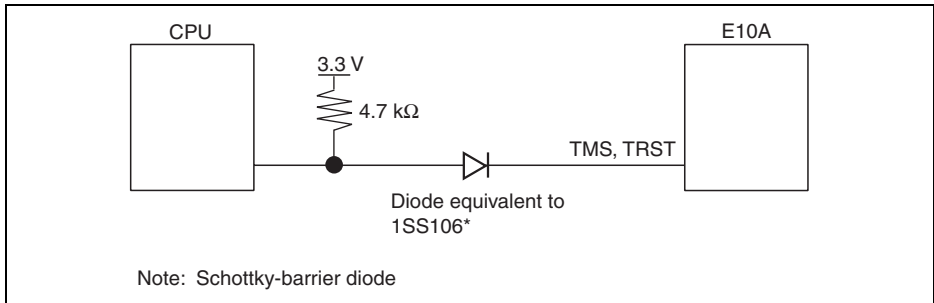

Figure 1.6 Countermeasure against the Leakage Current in the Emulator
7. When the power of the emulator is turned on (make sure that the emulator is inserted into the host computer and the power supply is turned on), and the target system (such as the system mounting the target device) is turned off, the power-supply voltage of the target device (target system) may become higher around 1.2 V to 1.4 V than the normal voltage due to the leakage current from the emulator. This is because TMS and TRST are driven to high by the emulator; the leakage current occurs from a TMS line before starting the emulator debugger (HEW), and from TMS and TRST lines through the CPU after starting the emulator debugger. Although the CPU will not be degraded or damaged, a power-on reset may be disabled. The power-supply voltage raised by the leakage current can be reduced to 0.2 V by inserting a diode in the output pins (TMS and TRST) of the emulator. For the type (type number) and the inserting direction of the diode, see figure 1.6.